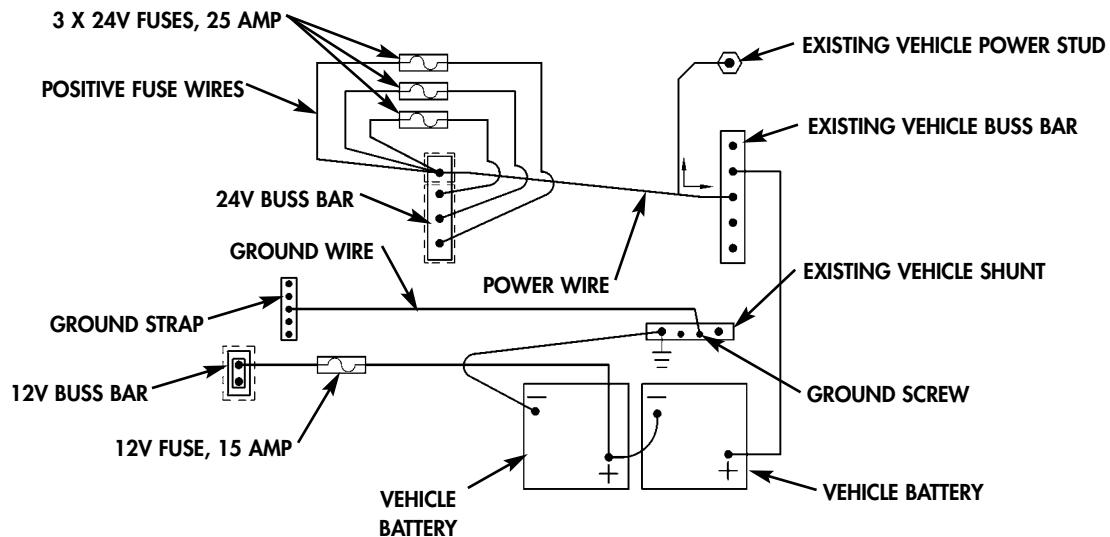

Figure 5-9.
- Refer to figure 5-9 for wiring overview.
- 6-1. Locate, mark, and drill one 2.00-in. diameter hole (6) in upper right corner of rear wall of battery box.
- 6-2. Install grommet (7) in hole (6).
- 6-3. Secure terminal link (2) and fuse wire (3) to 12V terminal board (1) with two locknuts (4). Install cover (5) on 12V terminal board (1).
- 6-4. Route wire (8) through battery box hole (6).